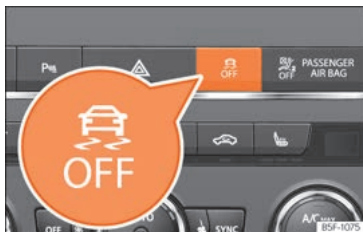

Fig. 257 Centre console: Button for switching on/off the ESC and ASR
- Press the button » » » **Fig. 257** for approximately 1 second to switch to ESC Sport mode.
- Press the button » » » **Fig. 257** for approximately 3 seconds to switch off the Electronic Stability programme (ESC), including the ASR function. The control lamp lights up and the **ESC OFF** message is displayed permanently on the instrument panel display.
- The ASR and ESC function are reconnected by pressing the button » » » **Fig. 257**.